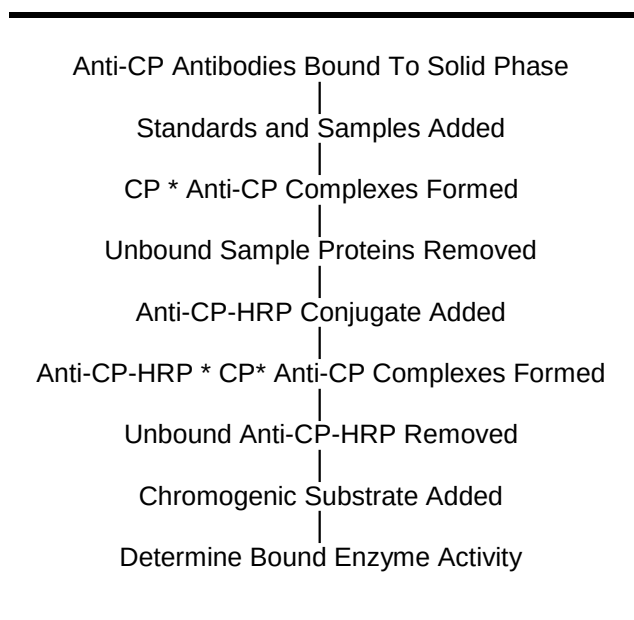

Figure 1
The principle of the double antibody sandwich ELISA is represented in Figure 1. In this assay the Ceruloplasmin (CP) present in samples reacts with the anti-CP antibodies, which have been adsorbed to the surface of polystyrene microtitre wells. After the removal of unbound proteins by washing, anti-CP antibodies conjugated with horseradish peroxidase (HRP) are added. These enzyme-labeled antibodies form complexes with the previously bound CP. Following another washing step, the enzyme bound to the immunosorbent is assayed by the addition of a chromogenic substrate, 3,3',5,5'-tetramethylbenzidine (TMB). The quantity of bound enzyme varies directly with the concentration of CP in the sample tested; thus, the absorbance, at 450 nm, is a measure of the concentration of CP in the test sample. The quantity of CP in the test sample can be interpolated from the standard curve constructed from the standards, and corrected for sample dilution.